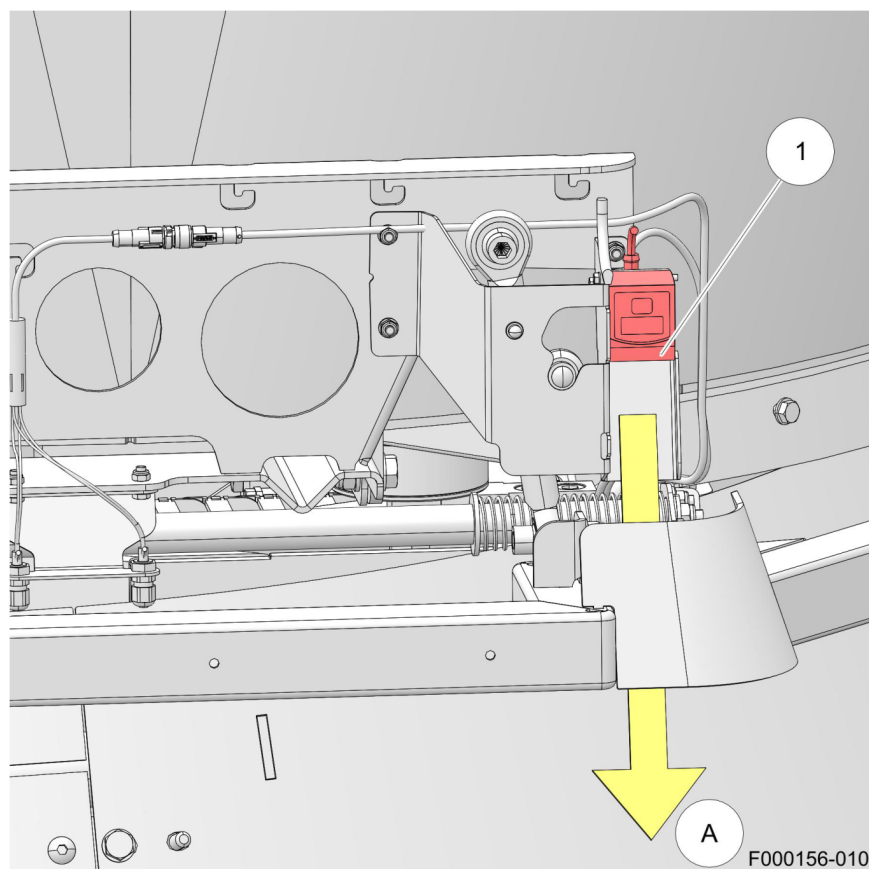

Figure 44. Clean the laser
1. Use a small brush or cloth to remove all dirt and cobwebs under the laser (A) of the feed height sensor (1) (see figure 44 on page 6-7).